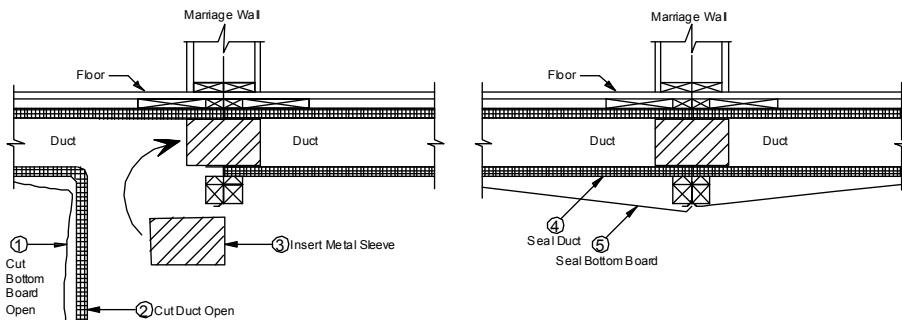

Figure 59. In-floor duct with crossover using metal sleeve
Join duct board ducts with a metal sleeve as follows (**Figure 59**):
2. **Open duct.** Create an opening in the duct by cutting the duct board as shown in **Figure 59**.